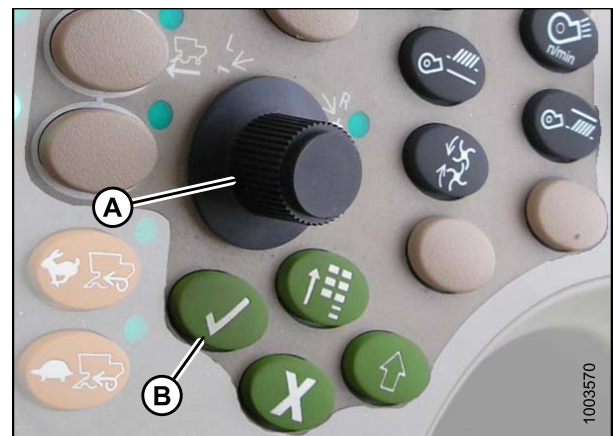

Figure 3.220: John Deere Combine Control Console
7. Select HEADER in box (A) by scrolling down to the box using the scroll knob, and then pressing the check mark button (knob and button are shown in Figure 3.220: *John Deere Combine Control Console*, page 153).
8. Scroll down to the lower right icon that resembles an arrow in a diamond (B) and press the check mark button to select it.